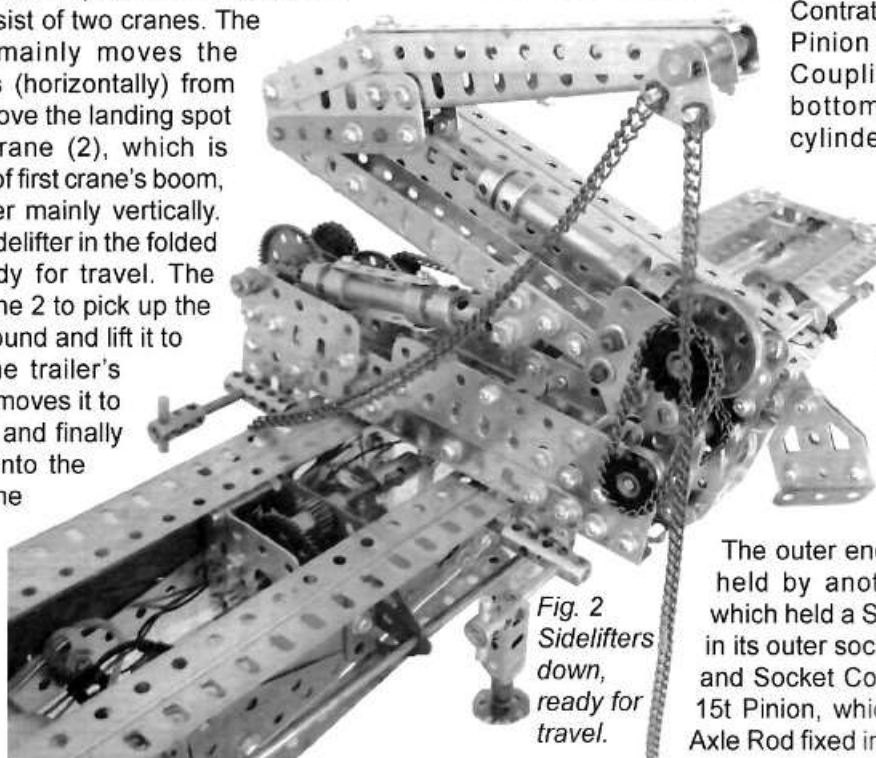
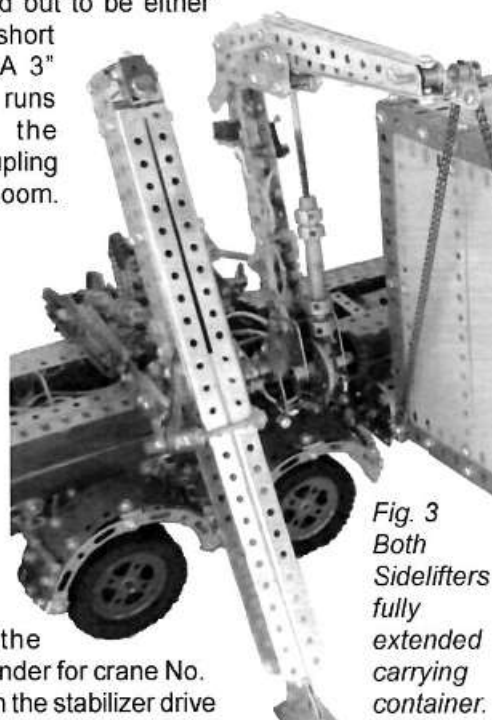

Fig. 2
Fig. 3 Both Sidelifters fully extended carrying container.
Sidelifters: Two Sidelifters, one at each end of the container each consist of two cranes. The lower crane (1) mainly moves the container sideways (horizontally) from the trailer bed to above the landing spot while the upper crane (2), which is attached to the end of first crane's boom, moves the container mainly vertically. Figure 2 shows a Sidelifter in the folded down position ready for travel. The sequence is for crane 2 to pick up the container off the ground and lift it to about level with the trailer's deck, then crane 1 moves it to over the trailer bed and finally crane 2 lowers it onto the bed. In Figure 3 crane No. 1 is fully extended sideways while crane No. 2 is at its highest position for each Sidelifter and about to lower